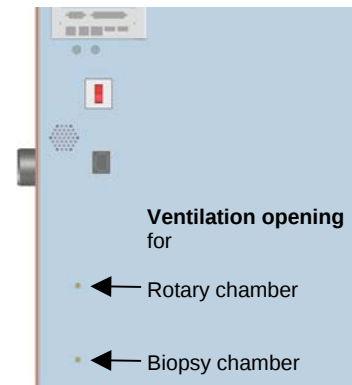

Fig. 59
- For this, insert the attached hexagonal key or another pin-shaped object into the lower hole on the left side of the instrument. Keep it pressed for approx. 10 sec. (fig. 59).
- For this, insert the attached hexagonal key or another pin-shaped object into the upper hole on the left side of the instrument. Keep it pressed for approx. 10 sec until the ventilation sound is no longer audible (fig. 59).